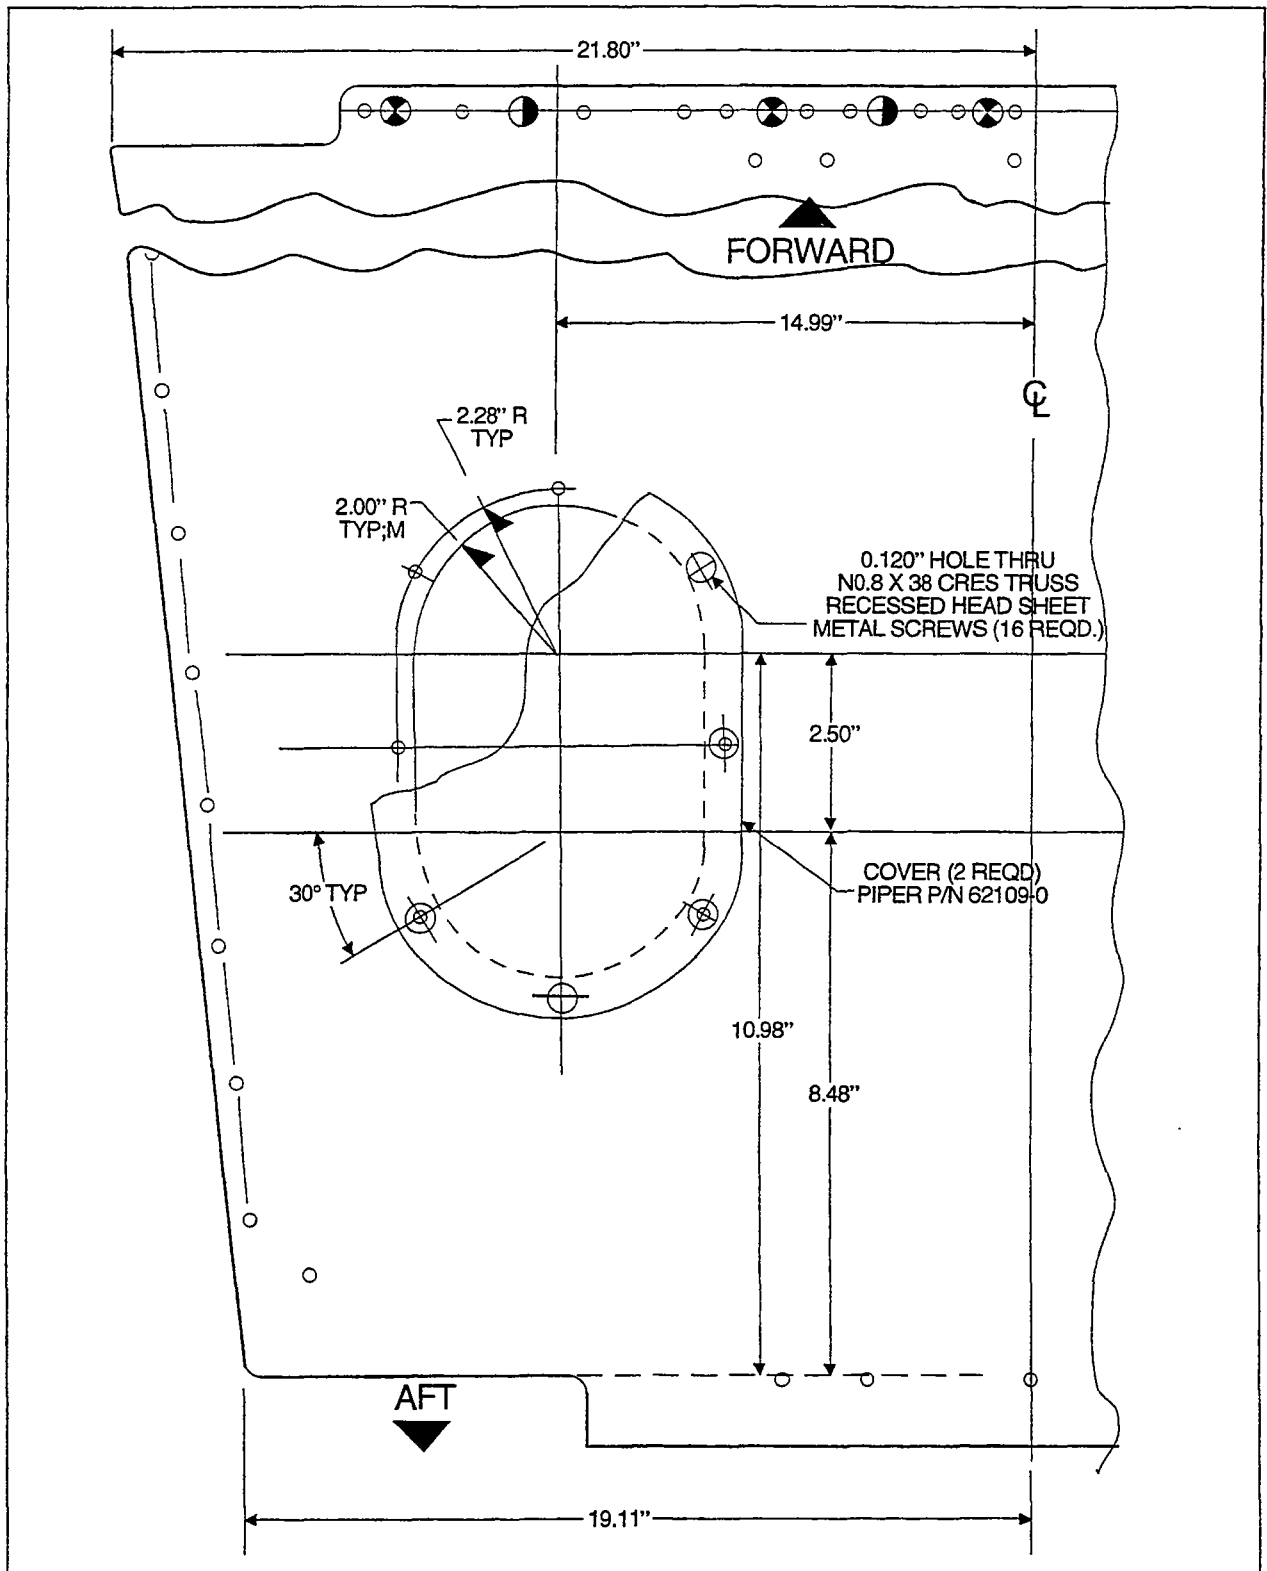

Figure 4-26. Baggage Compartment Inspection Holes Cutout Details
b. Baggage Compartment Inspection Holes Fabrication Procedure. (Refer to Figure 4-26.)
While Figure 4-26 shows the hole in the left side of the baggage compartment, a similar hole is also cut out in the right side baggage compartment floor. Installation will require two each inspection access covers, P/N 62109-000.
- (1) Right side baggage compartment Royalite plastic close out panel.
- (2) Rear close out panel.
- (3) Carpeting from baggage compartment floor.
- (c) Determine and mark a reference center line running through baggage compartment. Refer to Figure 4-26 for measurements.
- (i) There should now be two ovals, like the one in Figure 4-26, laid out on each side of the baggage compartment floor.